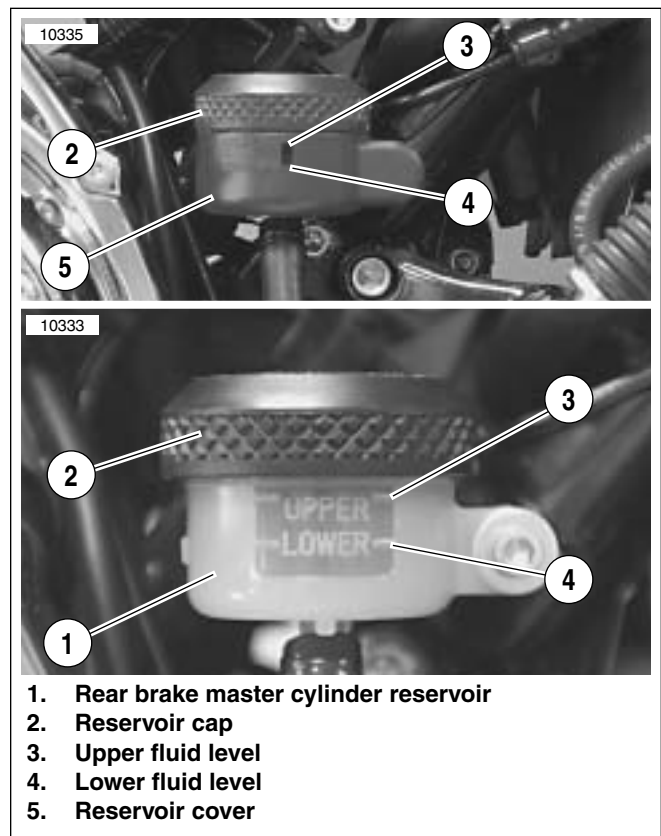
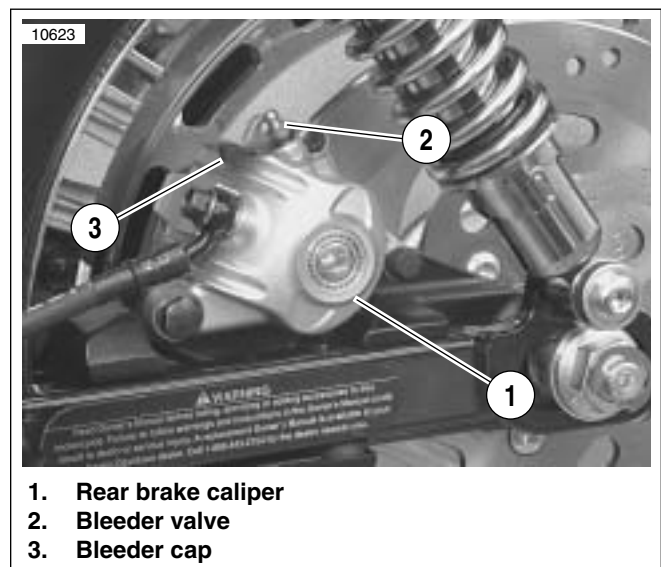

Figure 1-26. Rear Brake Master Cylinder Reservoir
Figure 1-27. Rear Brake Caliper
- See *Figure 1-26*. Vehicle must be upright so that rear brake master cylinder reservoir (1) is in a level position when filling and checking fluid level.
- Reservoir cover (5) may be removed from rear brake master cylinder reservoir to more easily verify fluid level in reservoir.
1. Position motorcycle upright (not resting on jiffy stand). See *Figure 1-26*. Unscrew and remove reservoir cap (2).
2. Add HARLEY-DAVIDSON D.O.T. 5 BRAKE FLUID to master cylinder reservoir (1) until the fluid reaches the upper fluid level (3).
3. See *Figure 1-27*. Remove bleeder cap (3). Install end of a length of 5/16 in. (7.9 mm) I.D. clear plastic tubing over caliper bleeder valve (2). Place free end of tube in a clean container.
8. See *Figure 1-26*. Add HARLEY-DAVIDSON D.O.T. 5 BRAKE FLUID to master cylinder reservoir (1) until the fluid reaches the upper fluid level (3).
9. Replace reservoir cap (2). Replace reservoir cover (5) if removed.